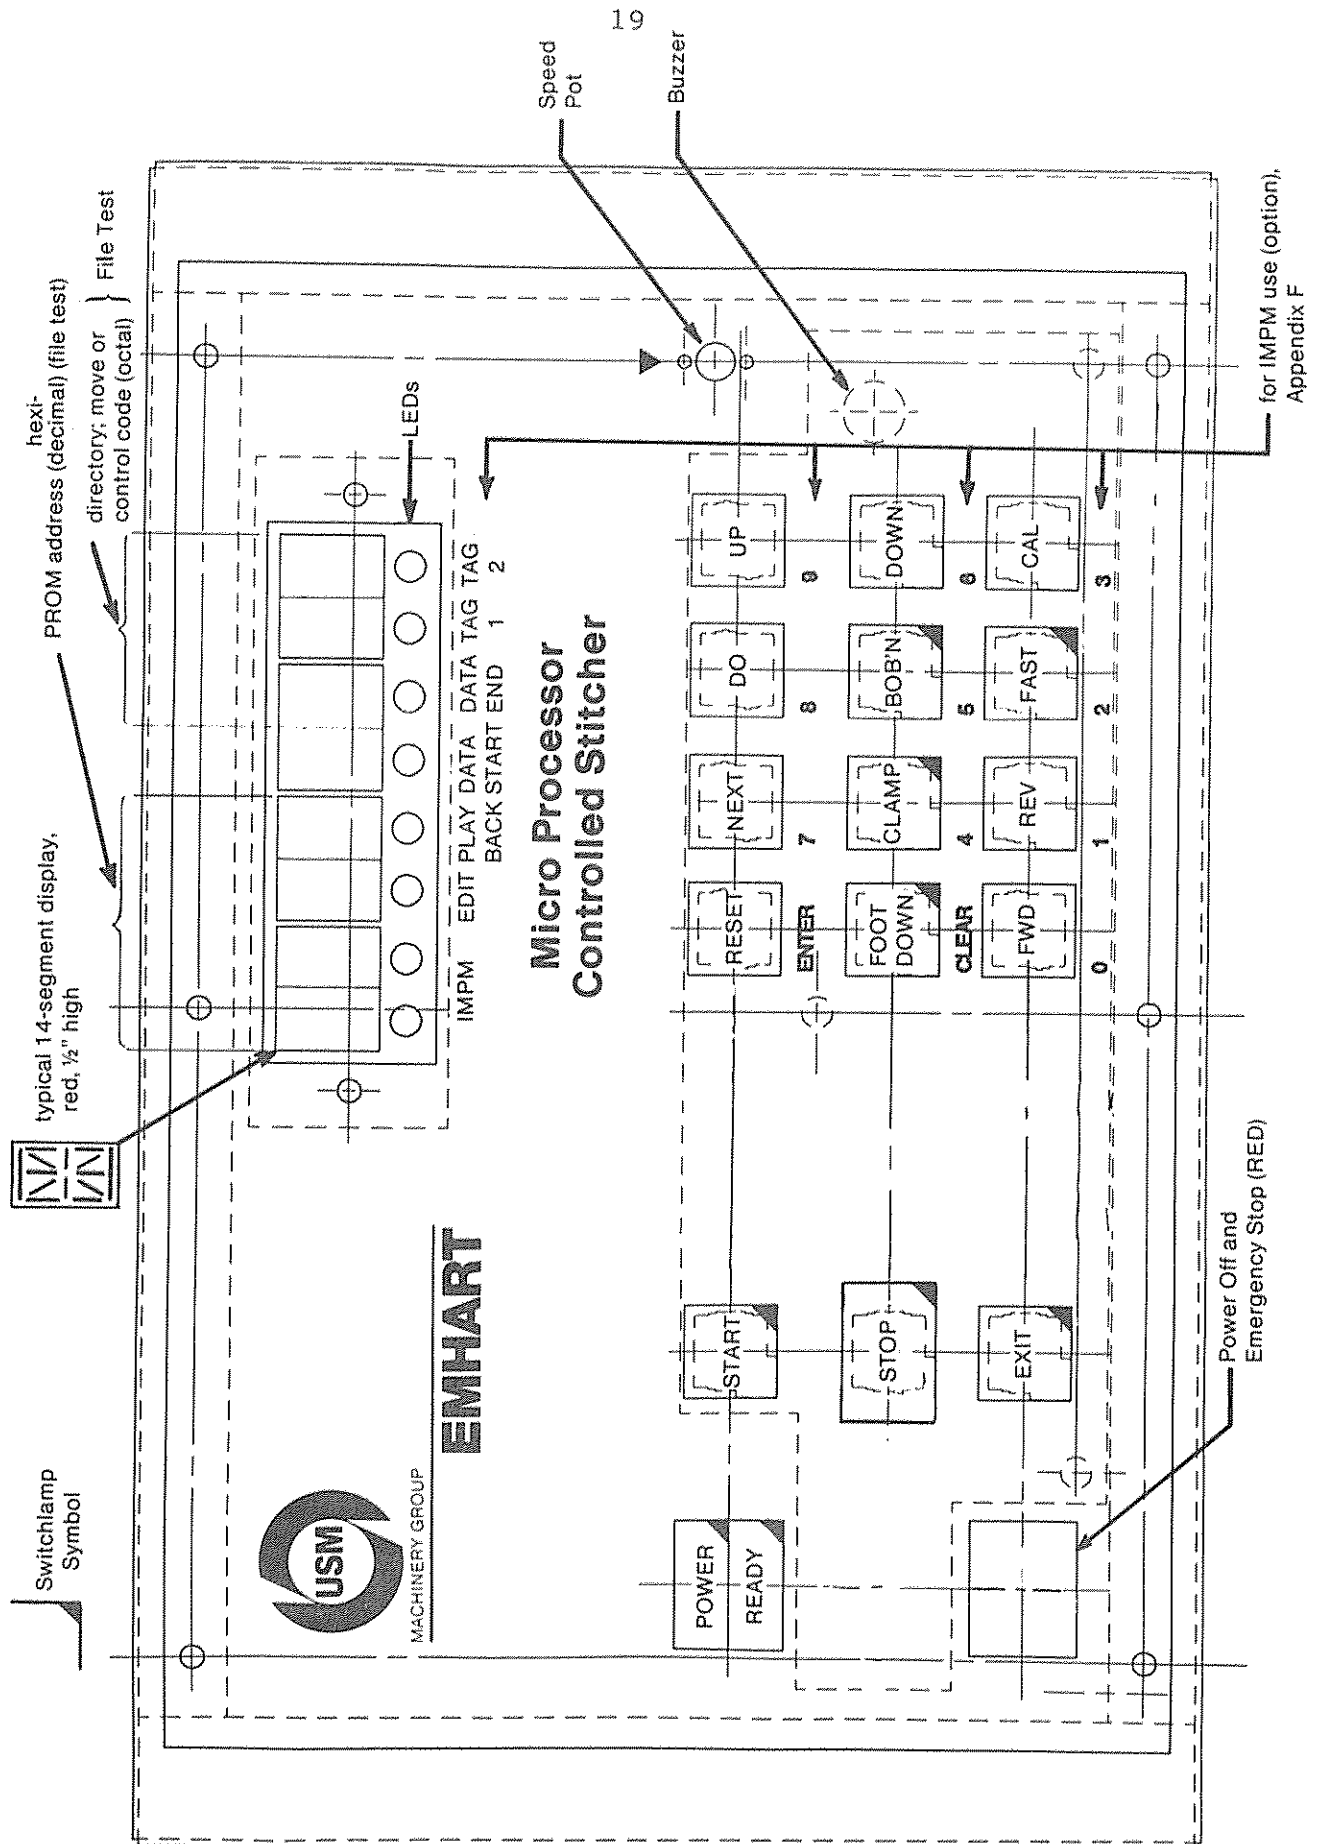

Figure 1.1
As shown in Fig. 1.1 the sixteen switches at the right are designated as a 3 x 4 keypad for convenient, fast inputting of digits 0 through 9, and the ENTER and CLEAR functions. This usage only applies for IMPM and related edit uses.
2. With the menu access set to FULL, use NEXT to select IMPM, then DO. All the 12 switches at the right end of the control panel have different functions as shown in Fig. 1.1; also shown on the control panel itself, below the switches.